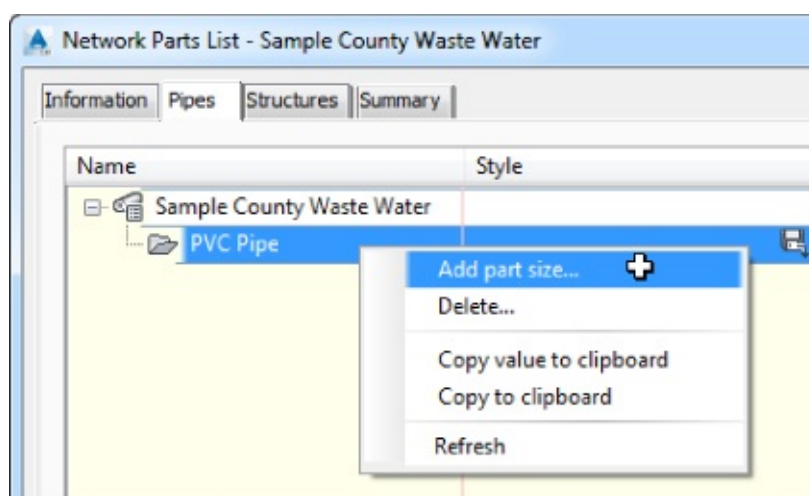

Figure 13.18 Add a new part size to the PVC Pipe part family.
9. Right-click PVC Pipe (PVC Pipe SI for metric users) and select Add Part Size, as shown in Figure 13.18.